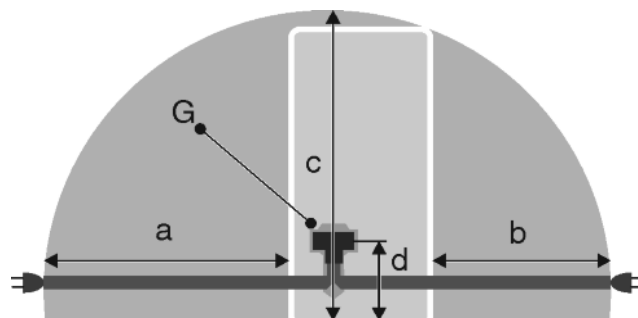

Fig. 27
- The socket is outside the back of the appliance area in the specified area *Fig. 27 (a, b, c)*.
- Insert the appliance plug *Fig. 27 (G)* into the back of the appliance. Ensure that it clicks into place.